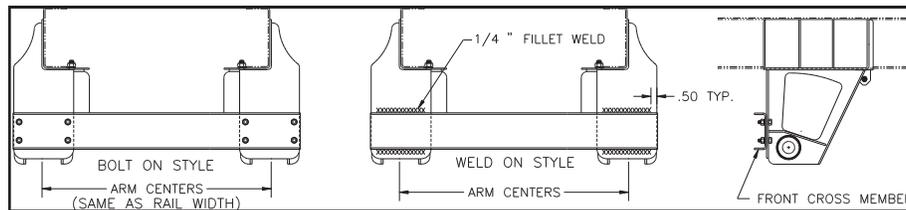

Figure 5-5
11. Check front hangers for proper centers (arm centers) and install front lower cross-member (this will be either bolt on or weld on.) See Figure 5-5.